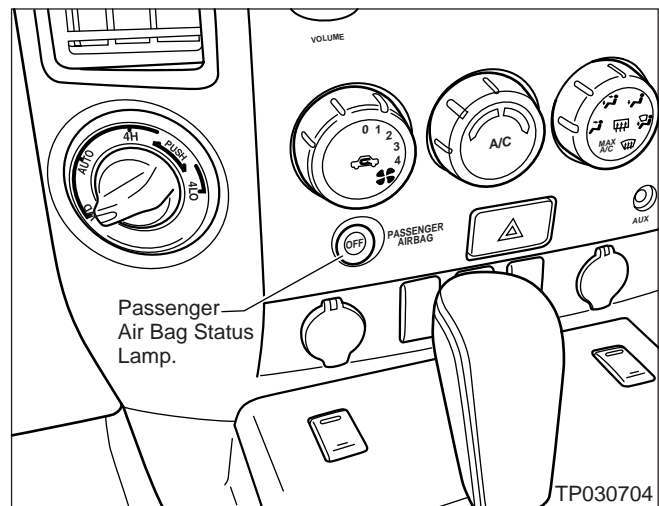

Figure 1
- The PASSENGER AIRBAG "Status Lamp" (see Figure 1) does not come ON (it's inoperative),